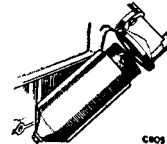

Fig. 37. Engine oil filter
(7) Inspect the front engine mountings. The rubber bushes should be free from oil or grease and the mounting bolts tight.
(8) Check the oil filter adaptor for leaks, and the securing bolts for tightness. The joint washer should be renewed if necessary. Ensure that the bolt at the bottom of the filter container is tight and that there is no oil leak at the gasket (Fig. 37).
(9) Check the tension of the fan and generator belts and adjust if necessary. See para. 96.
(10) Ensure that the engine sump drain plug is tight.